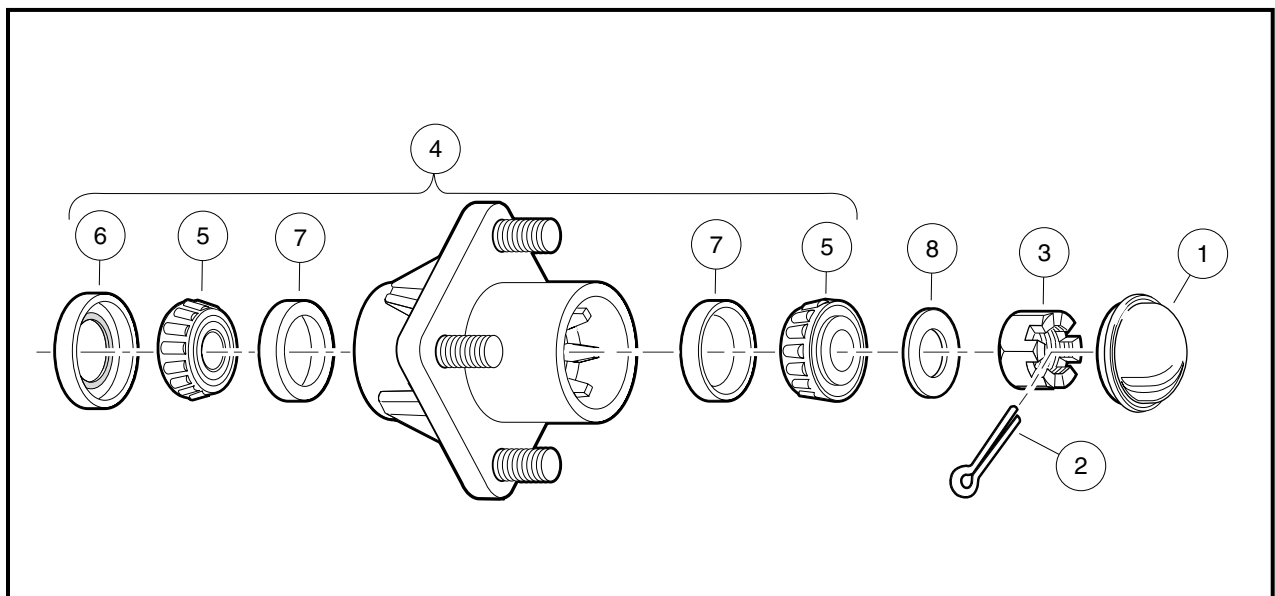

Figure 7-25 Front Wheel Bearings and Hub – Four-Wheel Brake Vehicle
2. Using your hands, attempt to rock the wheel and hub assembly back and forth on the spindle. If there is any observable movement of the wheel and hub on the spindle, remove dust cap (1) and cotter pin (2), and then tighten the spindle nut (3) until the bearing (5) fully seats in the bearing race (7) (**Figure 7-25, Page 7-23**).
4. Install a new cotter pin (2). If movement continues, replace the wheel bearings (5) as required.
- 2.1. Remove dust cover (1), cotter pin (2), spindle nut (3), and flat washer (8) (**Figure 7-25, Page 7-23**).
1. Pack the wheel bearings (5) and hub cavities, and lubricate cups (7) with wheel bearing grease or chassis lube. Make sure the grease is forced between the rollers (**Figure 7-25, Page 7-23**).
2. If bearing cups (7) were removed, press new ones in squarely against stops in the hub. **See following NOTE.**